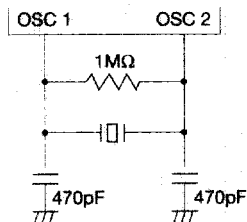

Figure 3-1 Ceramic Oscillator (CSB256D)
- Figure 3-1 shows an external circuit that used the ceramic oscillator CSB256D made by Murata MFG.